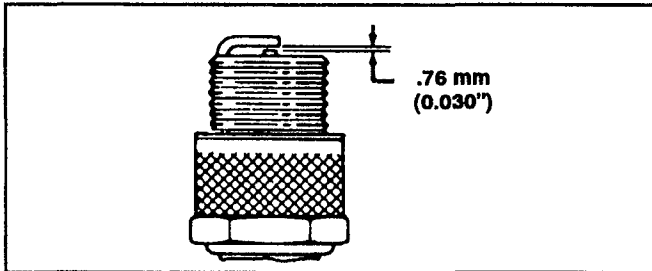

Figure 20
3. Set air gap at 0.76 mm (0.030") (Fig. 20). Install correctly gapped spark plug and gasket seal. Tighten plug firmly to 19 N·m (14 ft-lb).